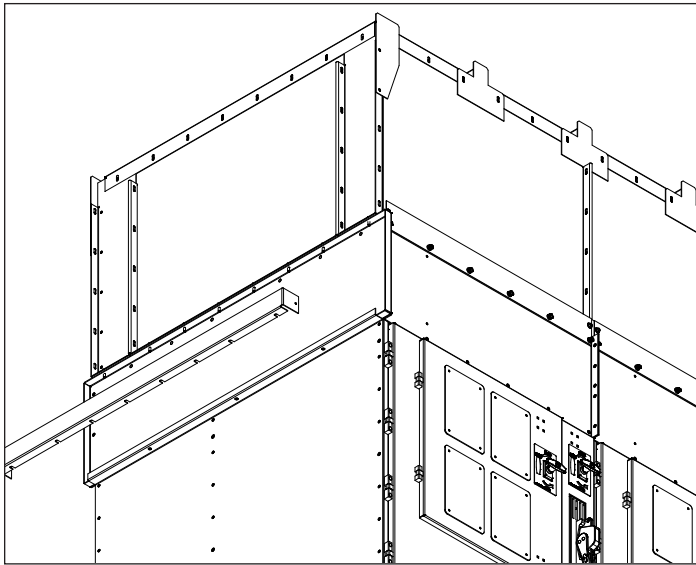

Figure 35. Installing End Gas Deflector
- D For any AMPGARD structures on the end of a lineup, an end gas deflector (87C1128H04) must be installed. The deflector is positioned with its bottom flange beneath the flanges of the plenum, and with the side flanges inboard of the adjacent front / rear deflectors. (See **Figure 35**).